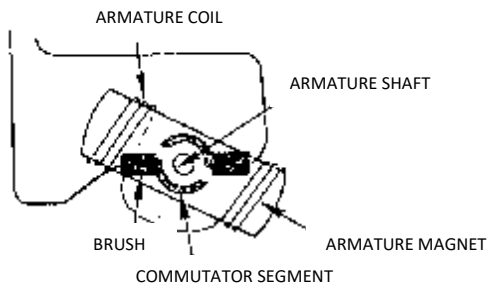

Figure 31
4. The Brushes, which are attached to the motor frame and touch the commutator. They provide a path for electricity from the power supply through the commutator to the electromagnet coils in the armature. (See Figure 31)